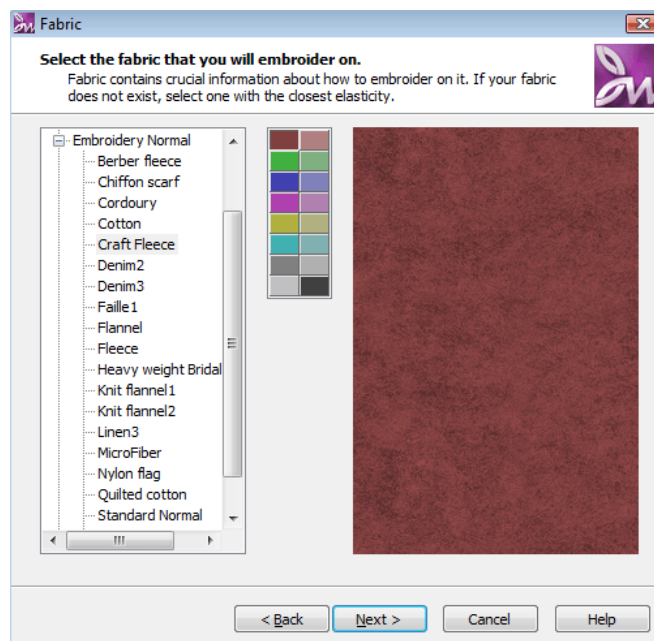

Figure 2.34: Select fabric dialog
11. Inside the **Creative DRAWings samples** folder you will find **.ngs** stitch files which you can import into **Creative DRAWings**. You can import any of them, but for our example we will use the **CDW0004.ngs** file as it is shown in the Figure 2.34
16. The **Fabric** dialog will appear (Figure 2.34). Expand the **Embroidery Normal** category from the list at the left by clicking on the **+** icon next to it.